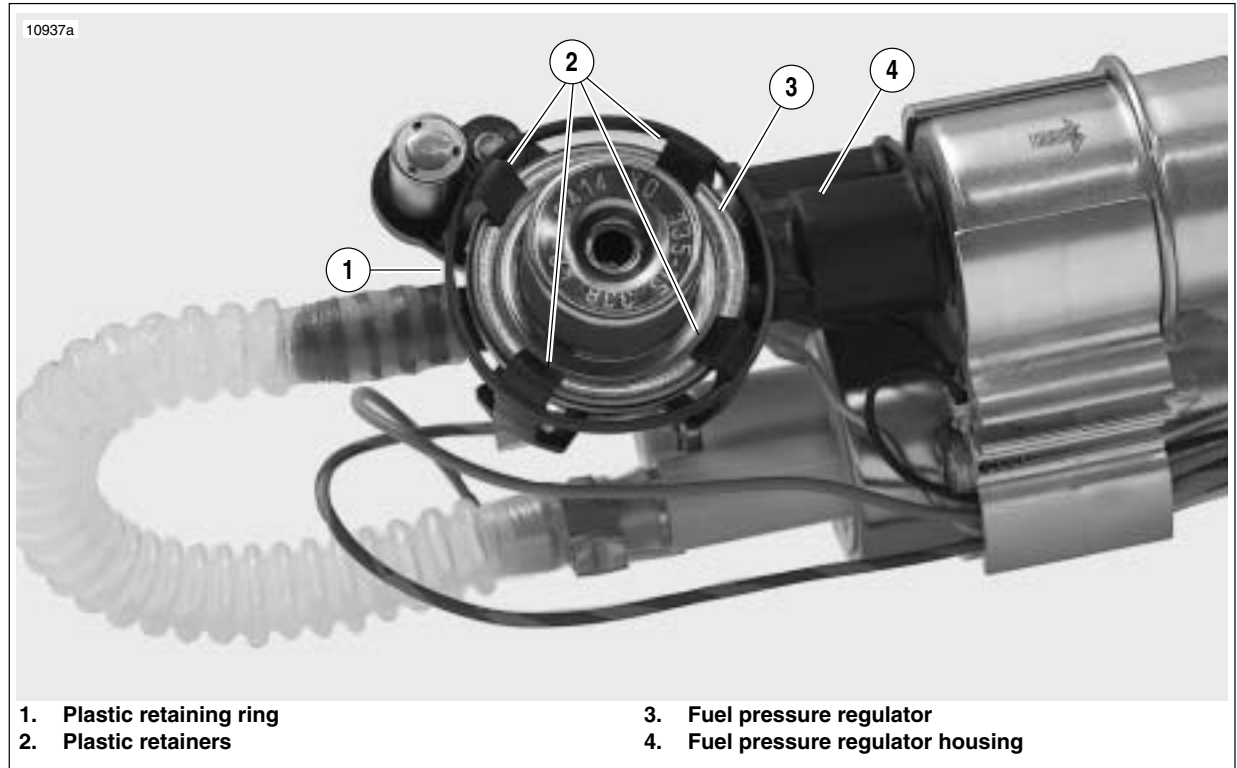

Figure 4-87. Fuel Pressure Regulator
2. See Figure 4-87. Remove the plastic retaining ring (1) securing the four plastic retainers (2) holding the fuel pressure regulator (3) in place. Spread the four clips and detach regulator (3) from regulator housing (4).
5. Install plastic retaining ring (1).